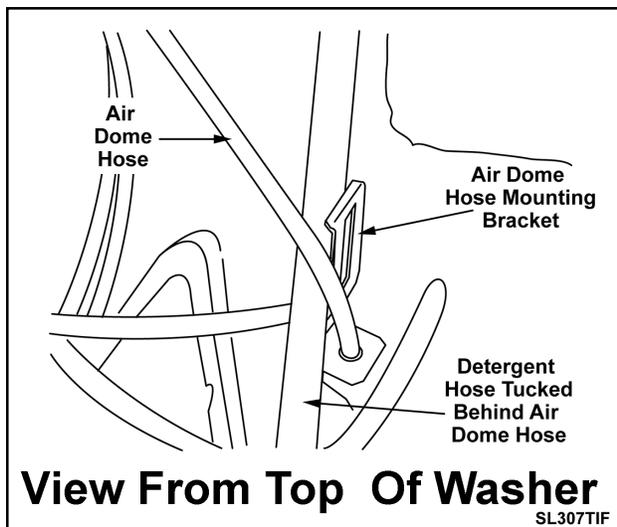

Figure 8-9
4. Follow the detergent hose vertically up to the air dome hose mounting bracket. The detergent hose is tucked behind the air dome hose. (See Figure 8-9)